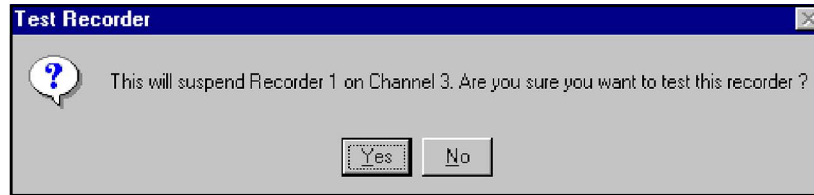

Figure 50: Test Recorder Prompt
2. A window similar to *Figure 50* below should appear, asking if you want to test the Recorder. Press **Yes**.